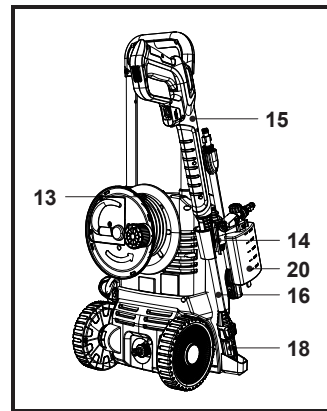

Fig. 24
3. Reel the pressure hose (13) and store the spray gun (15), extension lance (16), detergent bottle nozzle (20) and nozzle (18 / 19) (Fig. 24).
4. Always transport the machine by its transport handle (1) and rear wheels (8).